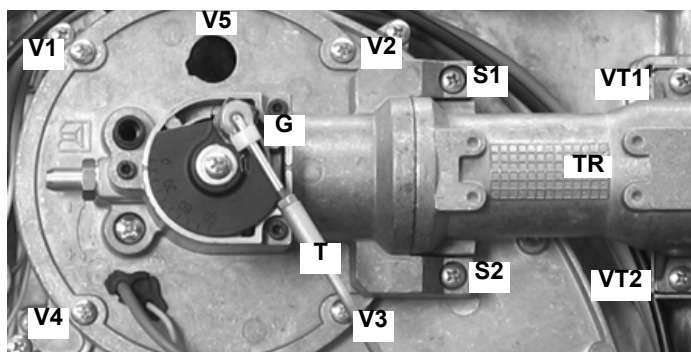

Fig. 13
- 1 Remove the plastic hook **G** to release the rod **T** (Fig. 13) .
- 2 Take the screws **V1**, **V2**, **V3**, **V4**, **V5**, **VT1** and **VT2** off (Fig. 13).